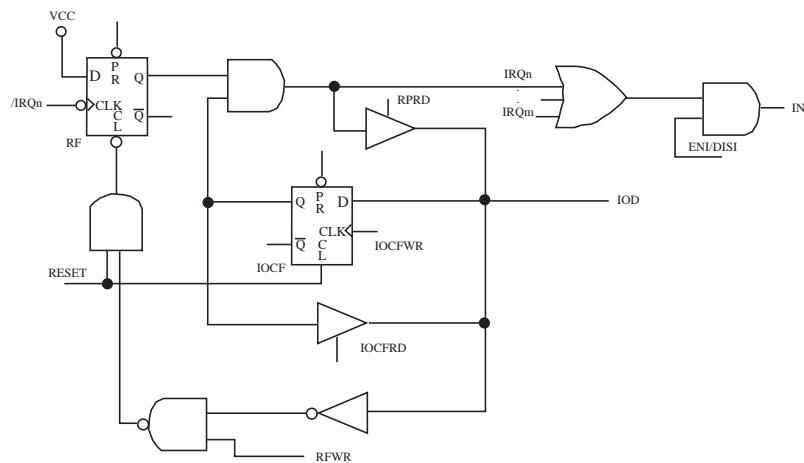

Fig. 10 Interrupt input circuit
The flag (except ICIF bit) in the Interrupt Status Register (RF) is set regardless of the status of its mask bit or the execution of ENI. Note that the outcome of RF will be the logic AND of RF and IOCF. Refer to Figure 10. The RETI instruction ends the interrupt routine and enables the global interrupt (the execution of ENI).